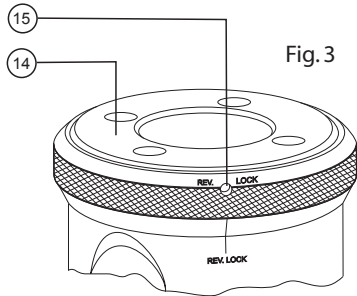

Fig. 3
Manual Boring & Facing Head is capable of reverse feed by running the spindle in reverse. To set the head for feeding in clockwise and counter-clockwise direction, screw the head on your desired shank. Align the "Rev. Lock" mark on the facing ring (7) with the "Rev. Lock" mark on the body (5) (see Figure 3). Insert a 3/32" hex wrench through the hole in the facing ring and tighten the reversing lock screw (15) (see Figure 3) in the top cap. This prevents the head from unscrewing during reverse (counterclockwise) operation.